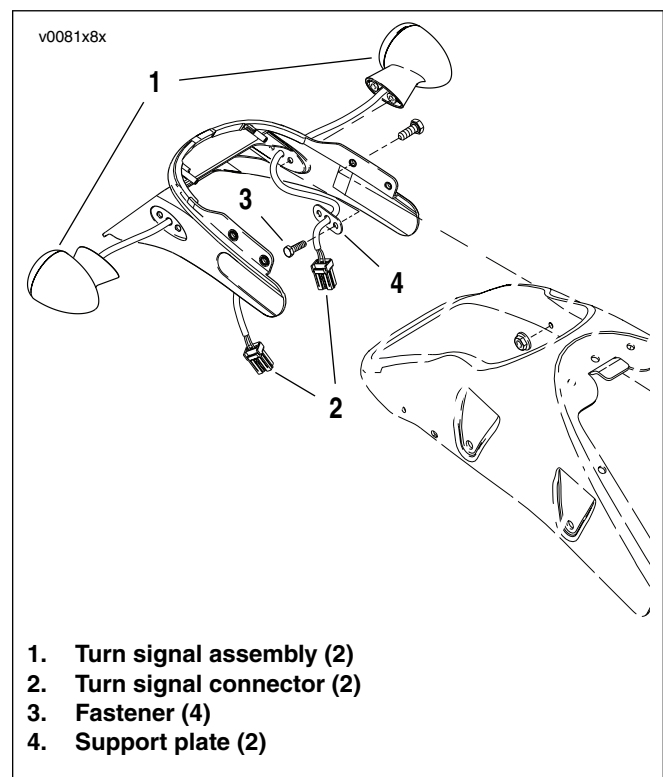

Figure 8-31. Rear Turn Signal Mounting (typical) (VRSCA shown)
2. See Figure 8-31. Drawing shows rear lighting module assembly removed from rear fender for clarity. Note locations of turn signal wires in connector. Remove turn signal wire terminals from connector. See the VRSC Electrical Diagnostic Manual for more information.